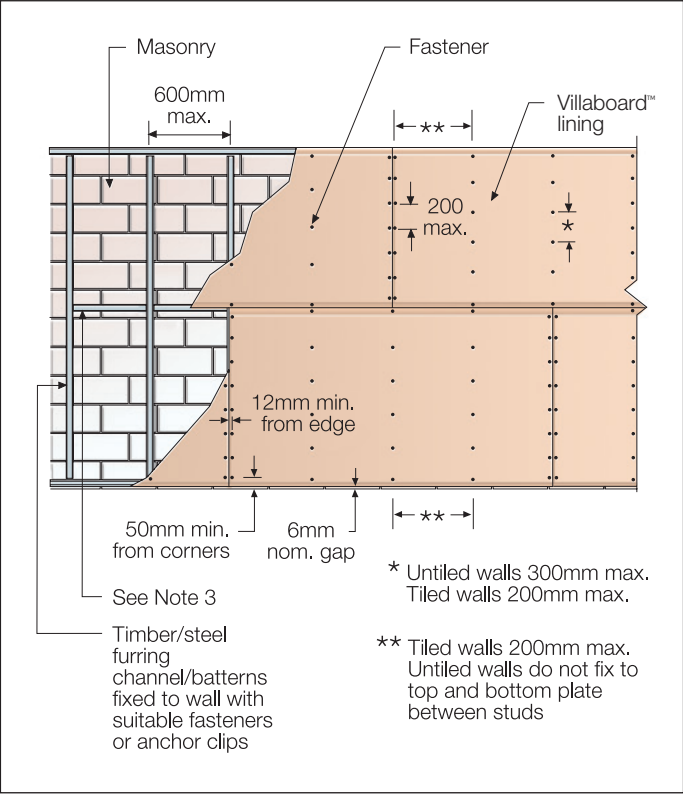

FIGURE 13 BATTEN / FURRING CHANNEL - HORIZONTAL LAYOUT
6. Use suitable masonry fasteners to securely fix timber/steel battens or recessed furring channels as shown in figure 13.